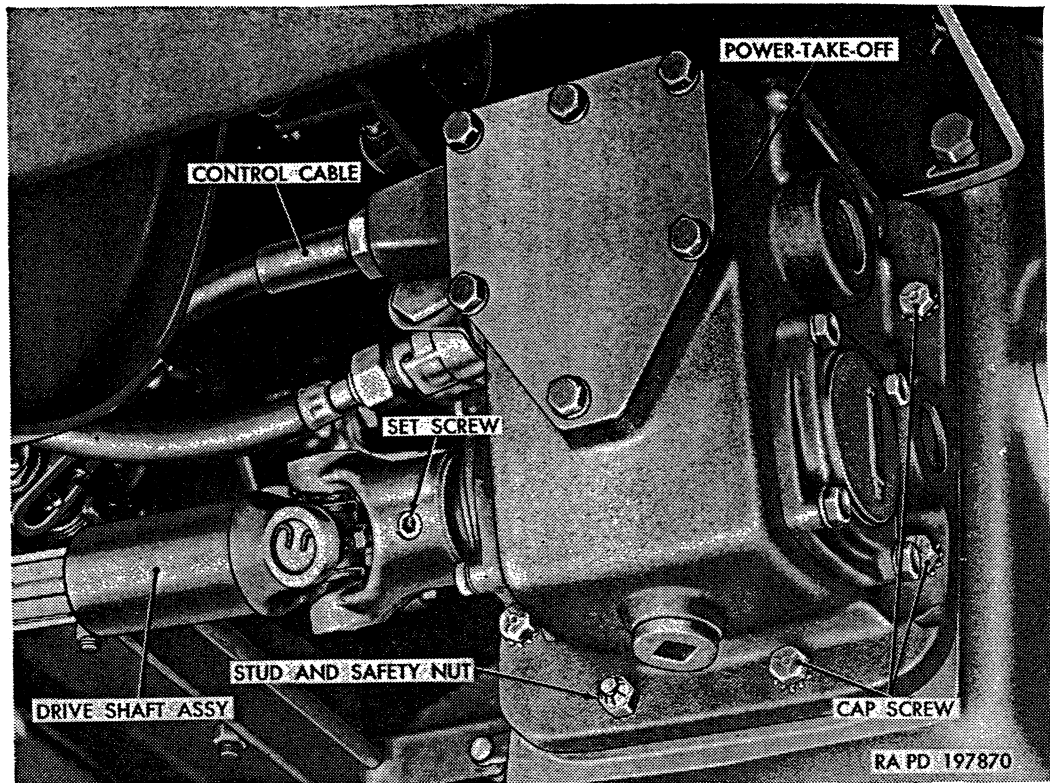
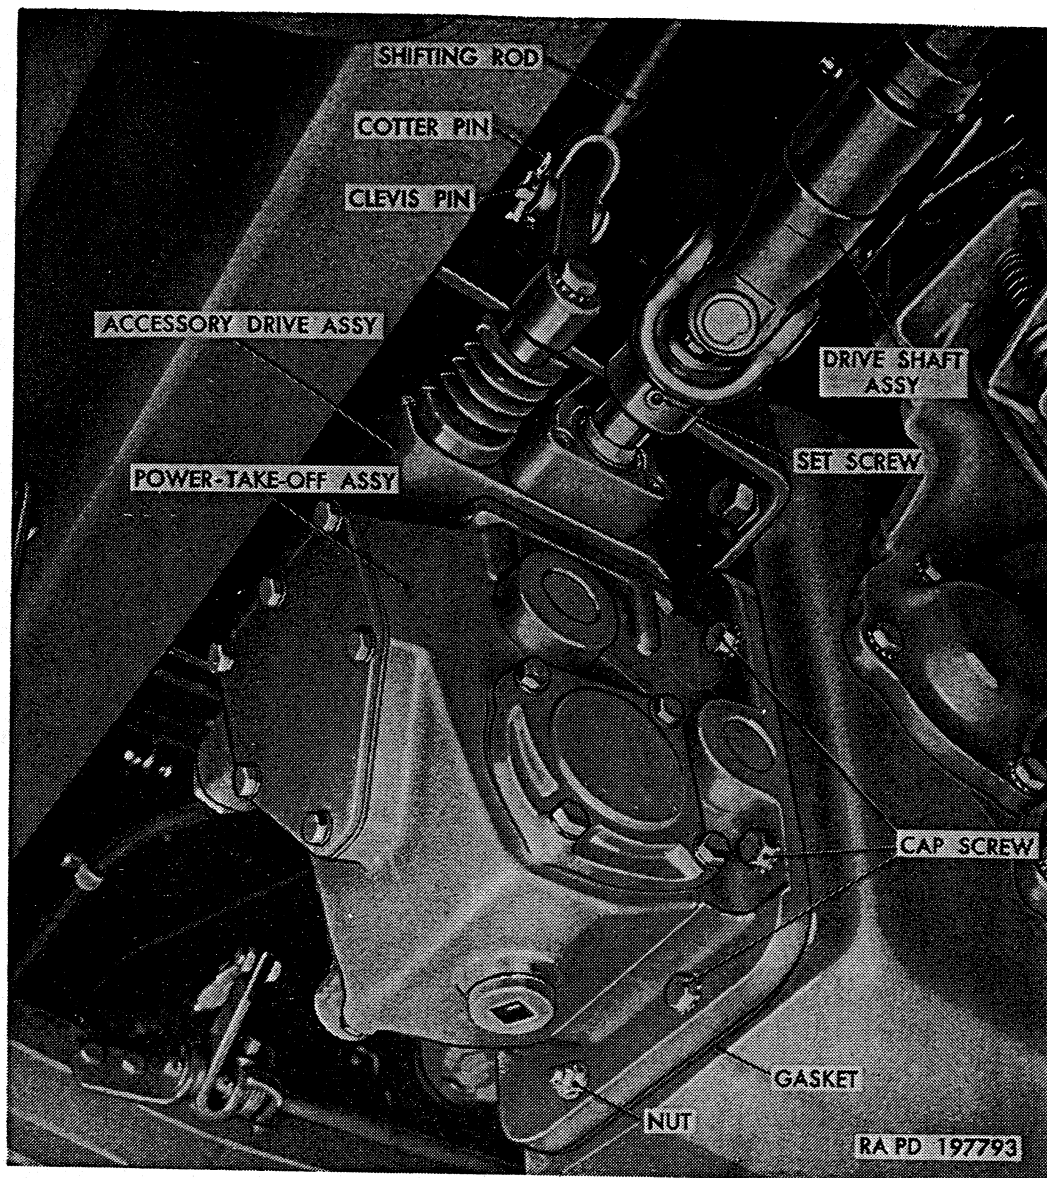
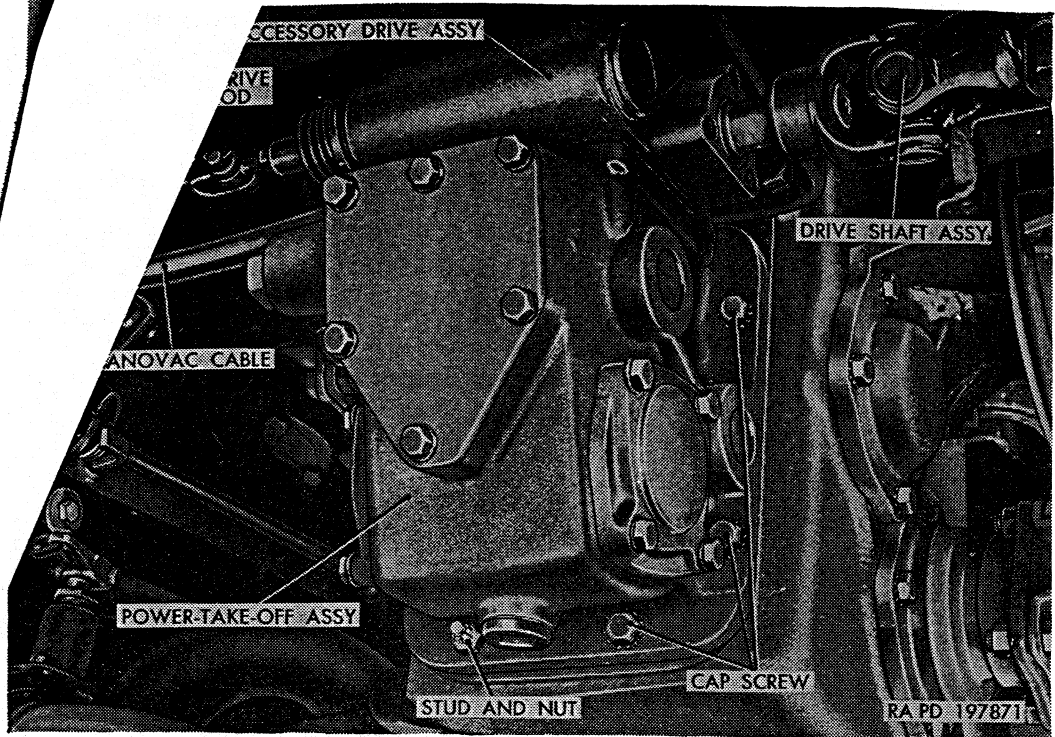

Figure 221. Power-take-off installed (winch only).
Figure 222. Power-take-off installed (dump body hoist).
Figure 223. Power-take-off installed (gasoline and water tank pump).
*a. General.* The arrangement of power-take-off and accessory drive assemblies are similar in their mounting and controls as illustrated in figures 221, 222, and 223. Removal procedures for each type are described in *b, c, and d* below.
*b. Removal of Winch Power-Take-Off (fig. 221).*
- (1) Remove plug from bottom of power-take-off to drain lubricant.
- (2) Loosen setscrew securing universal joint yoke to power-take-off shaft; then slide yoke forward to remove from power-take-off shaft.
- (3) Remove control cable from power-take-off (par. 321*b*).
- (4) Remove six cap screws and lockwashers, and two stud nuts attaching power-take-off to transfer. Remove power-take-off assembly from transfer. Remove and discard gasket.
*c. Removal of Dump Body Hoist Power-Take-Off (fig. 222).*
- (2) On vehicles equipped with winch, disconnect drive shaft universal joint yoke (b(2) above). Remove control cable from power-take-off (par. 321b).
- (3) Remove setscrew securing hoist pump drive shaft yoke to accessory drive assembly; then slide yoke rearward to remove from shaft.
- (4) Remove cotter pin and clevis pin attaching shifting rod to accessory drive shifter shaft.
- (5) Remove six cap screws and lockwashers, and two stud nuts attaching power-take-off to transfer. Remove power-take-off from transfer. Remove and discard gasket.
- d. *Removal of Tank Body Pump Power-Take-Off* (fig. 223).
- (2) Remove pump front propeller shaft (par. 345b).
- (3) Remove cotter pin and clevis pin; then remove shift rod at accessory drive shift shaft.
- (4) Remove nut attaching Mechanovac governor control cable to accessory drive assembly; then remove cable.
*b. Installation of Winch Power-Take-Off* (fig. 221).
- (1) Position two new gaskets over studs and against transfer. Position power-take-off over two studs and against transfer. Install one  $\frac{3}{8}$ -24 nut on each of the two studs. Install six  $\frac{3}{8}$ -16 x  $1\frac{1}{8}$  cap screws and  $\frac{3}{8}$ -inch lockwashers. Tighten stud nuts and cap screws evenly and alternately.
- (2) Fill transfer with lubricant as directed in paragraph 207*c*.
- (3) Install control cable (par. 321*c*).
- (4) Install  $\frac{1}{4}$  x 1 woodruff key in power-take-off shaft keyway. Install rear universal joint on splined rear shaft; then slide joint rearward and onto power-take-off shaft, alining keyway
*c. Installation of Dump Body Hoist Power-Take-Off (fig. 222).*
- (1) Install power-take-off (b(1) above); then fill transfer with lubricant as directed in paragraph 207c.
- (2) On vehicles equipped with winch, connect drive shaft universal joint to power-take-off (b(4) above). Connect control cable (par. 321c).
- (3) Connect shifting rod to accessory drive shift shaft, using  $\frac{1}{2}$  x  $1\frac{3}{64}$  clevis pin and  $\frac{1}{8}$  x  $\frac{7}{8}$  cotter pin.
- (4) Install one  $\frac{1}{4}$  x  $\frac{7}{8}$  woodruff key in accessory drive shaft. Aline drive shaft yoke keyway with drive shaft key; then tap yoke with soft hammer until in position on shaft. Install and tighten a  $\frac{3}{8}$ -16 x  $\frac{1}{2}$  socket-head setscrew which attaches yoke to shaft. Prick punch head of setscrew to prevent loosening.
*d. Installation of Tank Body Pump Power-Take-Off (fig. 223).*
- (1) Install power-take-off (b(1) above); then fill transfer with lubricant (par. 207c).
- (2) Connect shifting rod to accessory drive shift shaft eye, using  $\frac{3}{8}$  x  $\frac{15}{16}$  clevis pin and  $\frac{3}{32}$  x  $\frac{5}{8}$  cotter pin.
- (3) Insert end of Mechanovac governor control cable into opening in accessory drive; then tighten retaining nut.
- (4) Install pump front propeller shaft as directed in paragraph 345c.